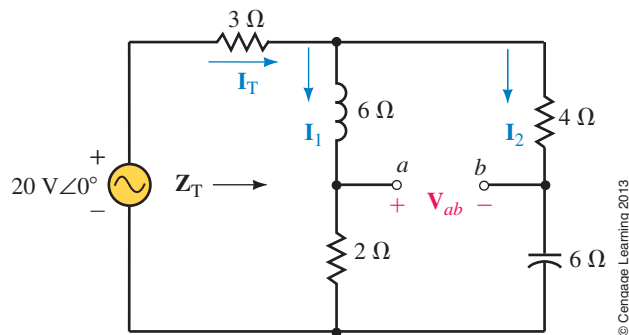

FIGURE 18-115
47. Refer to the circuit of Figure 18-115.